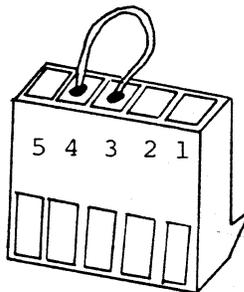

Figure 5-33 J4 Plug at 185 - 256 VAC
8. Move the jumper on pin #2 to pin #3. Replace the plug on connector J4. See Figure 5-33 for new pin locations.